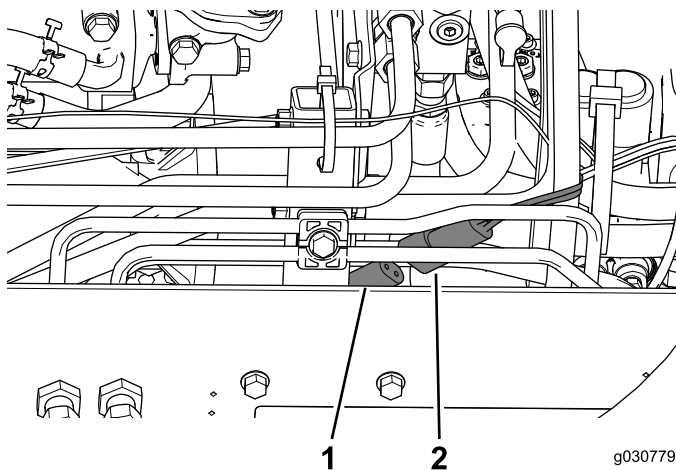

Figure 48
2. Connect the cab power connector to the connector on the right side of the machine (Figure 48).